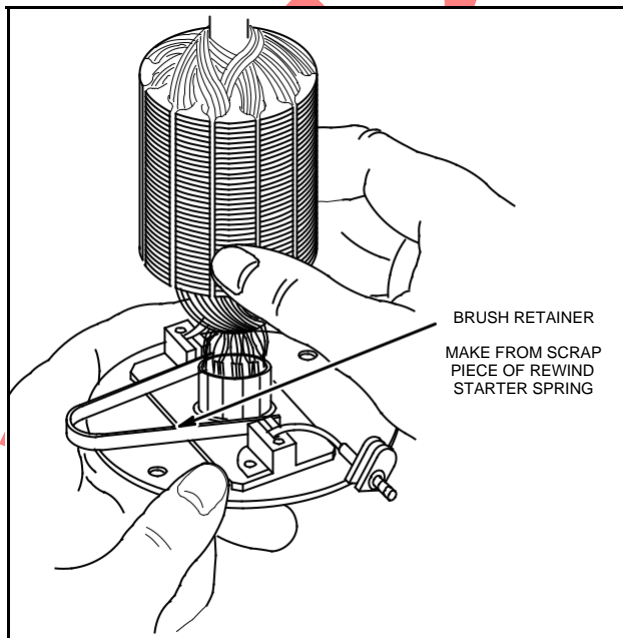

Fig. 673 - ASSEMBLING ARMATURE TO
**NOTE:** Tools such as shown in Fig's. 646, page 16, and Fig. 673, this page, should be used to hold the brushes clear of the armature commutator when assembling the armature to end cap.